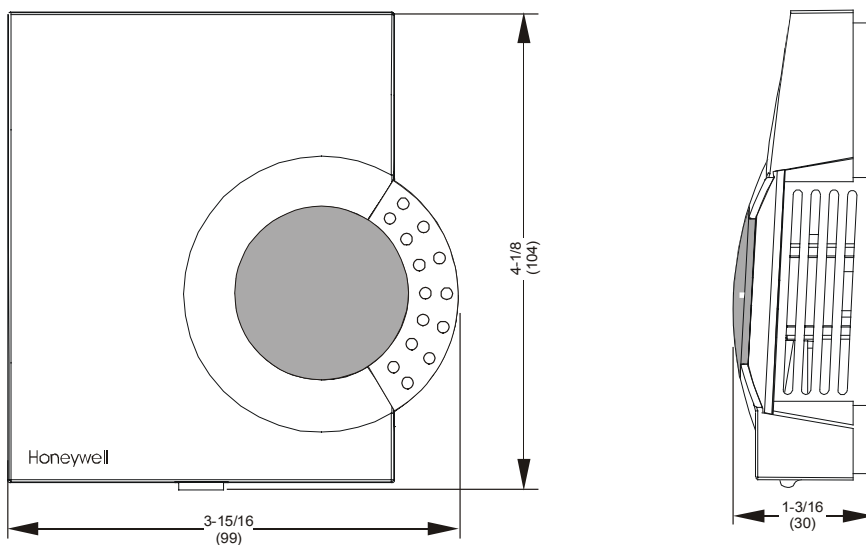

Fig. 2 Dimensions and mounting holes in inches (mm)
b) bore wall holes as specified in Fig. 2 and mount the wall module with appropriate screws.